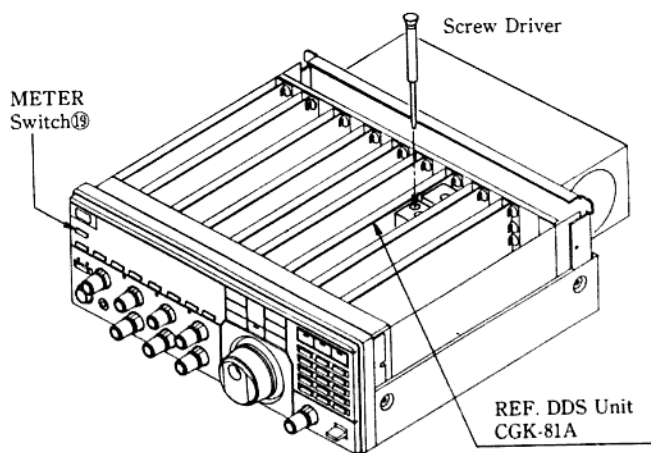

Fig. 7.6 Adjustment of Standard Oscillator
- (1) Remove the top cover according to 7.3 "Removal of Covers".
- (2) Do not disconnect the internal-speaker cable. If disconnection is required, connect an external speaker to the SP jack ⑤ on the rear panel.
- (3) Turn on the POWER switch ① and receive the standard frequency station (WWV, etc.) in the CW mode. At receiving tune up to 10-Hz digit.
- (4) While keeping the METER switch ⑨ pressed, adjust the trimmer on the REF-DDS Unit CGK-81A as shown in Fig. 7.6 to obtain the zero-beat.
- (5) Turn off the POWER switch ① and replace the top cover.